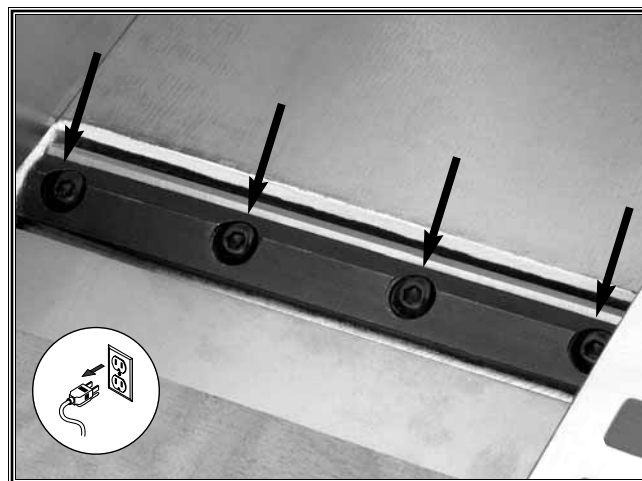

Figure 38. Blade clamping screws.
3. Remove the four blade clamping screws on one of the blades (**Figure 38**).